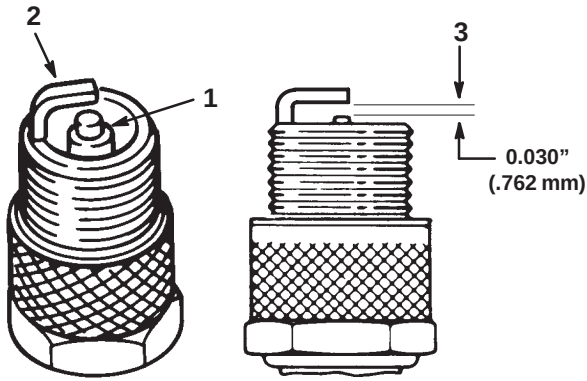

Figure 13
1. Look at the center of the spark plug(s) (Fig. 13). If you see light brown or gray on the insulator, the engine is operating properly. A black coating on the insulator usually means the air cleaner is dirty.
2. Check the gap between the center and side electrodes (Fig. 13). Bend the side electrode (Fig. 13) if the gap is not correct.